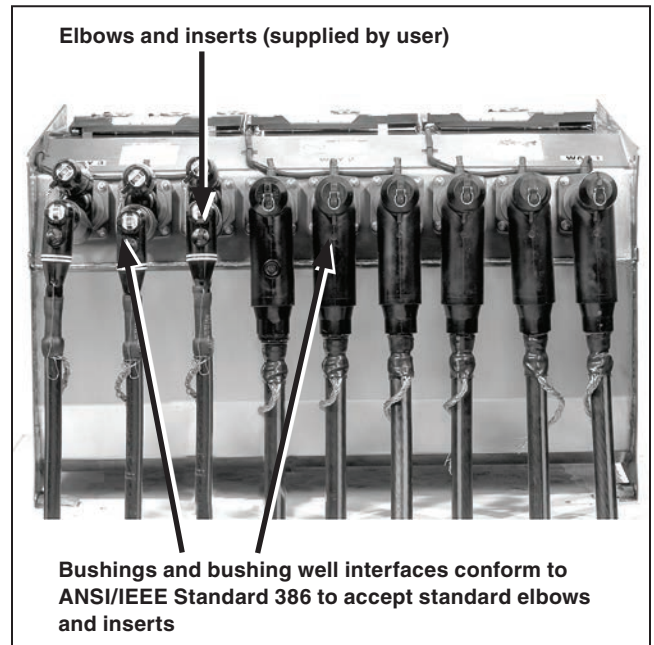

Figure 110. A Vista switchgear tank shown with user-supplied cables and elbows. (Manual unit shown for illustration purposes.)
STEP 2. Terminate the cables with elbows following the elbow manufacturer's instructions. See Figure 110.